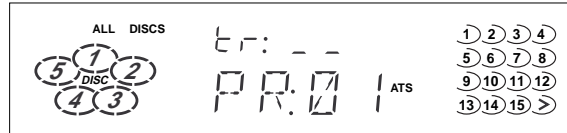

Fig. 3
1. Press **ATS** to activate the feature. The VFD display will be similar Fig. 3 with a flashing disc number and "--".